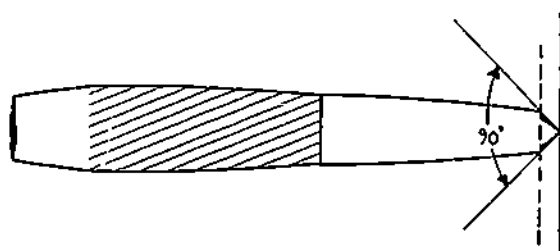

Figure 2-9. Centre Punch
**Centre Punch** The centre punch (Figure 2-9) is similar in design to the prick punch except that the tapered point is ground to 90°. This machine gives the capability of enlarging prick punch holes for drilling or machine punching. The centre punch is often made by the Boilermaker rather than purchased.